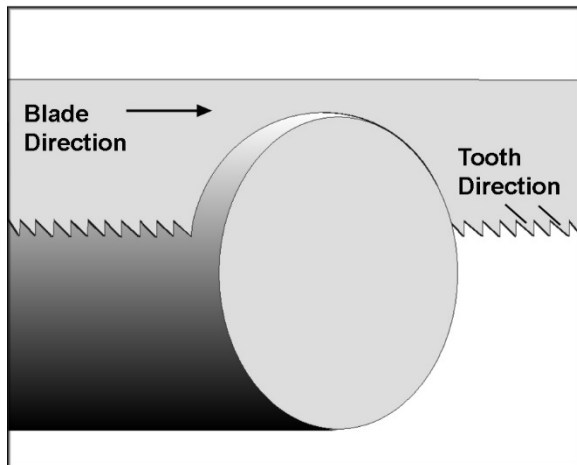

Figure 7-8
4. Remove old blade. Place new blade between blade guide assemblies and around each wheel. Make sure blade teeth are pointing in proper direction (see Figure 7-8).